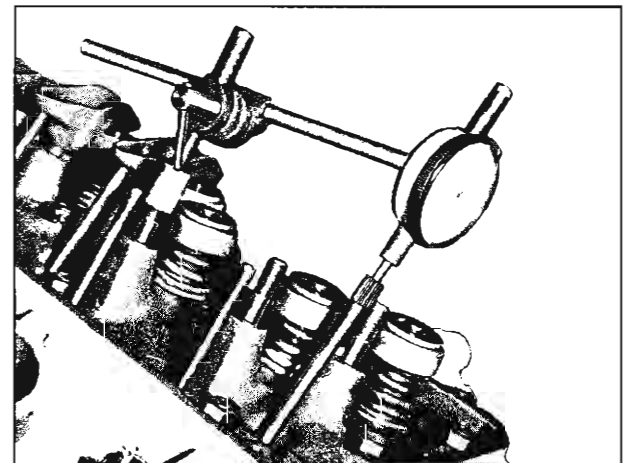

Fig. 138—Checking Camshaft Lobe Lift
3. Attach Tool J-8520 to stud as shown in Figure 138.
5. Position indicator Tool J-8520 to push rod as shown in Figure 138.